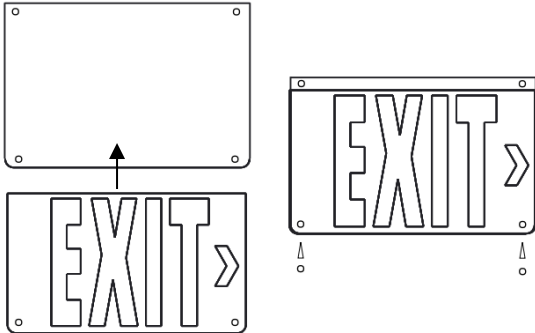

Fig 1
1. Place correct PVC onto the panel. Fix it on the panel with buttons supplied (Fig 1).